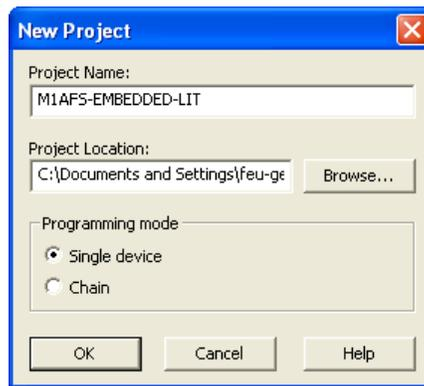

Figure 1-2 · New Project
2. Click the **New Project** button to create a new programming project. Enter the project name and select **Single Device** as the programming mode (Figure 1-2).